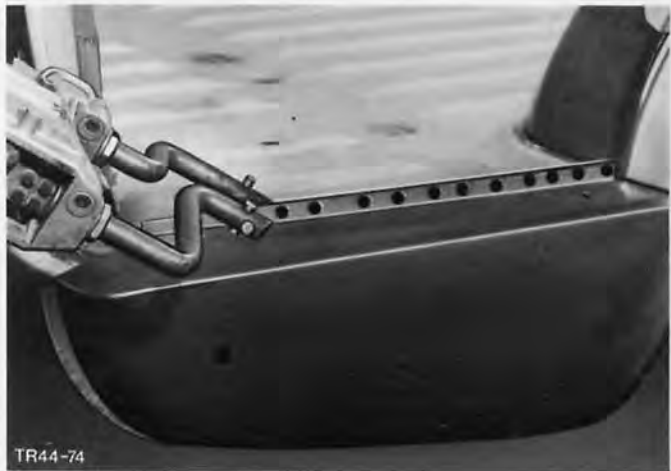

Fig.131. Spot weld rocker panel.
7. Spot weld/weld in new rocker panel at connection with floor panel, apron, side panel and wheel house, Fig.131.